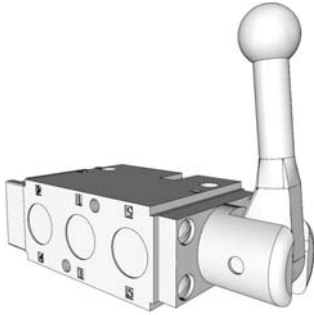

FIG. 15
- Normal Position: allows free-spool rotation (FIG. 15).